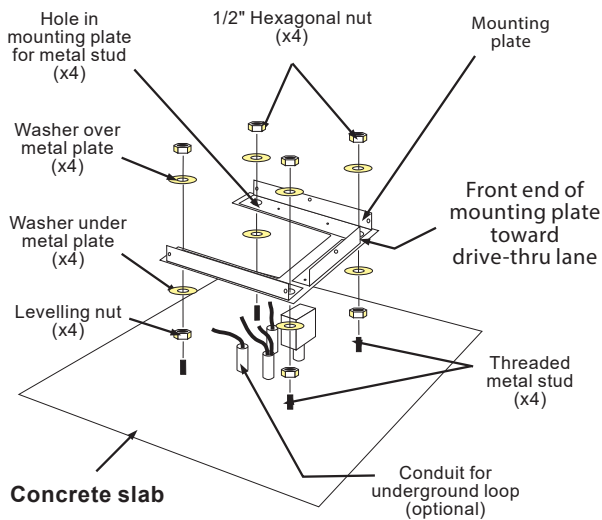

Figure 10.
7. If the concrete slab has four threaded metal studs in a 6 inch (152.4 mm) square pattern, the standard mounting plate included with the speaker post will be installed as described below. Refer to Figure 10.
- ii. Position the mounting plate on the concrete slab as shown in Figure 10, with its front end toward the drive-thru lane and the four studs going through the four largest holes in the plate. Use a level to adjust the positions of the leveling nuts until the plate is level.
- iv. Install the standard mounting plate that comes with the speaker post according to first section of step 7 (before Figure 10).